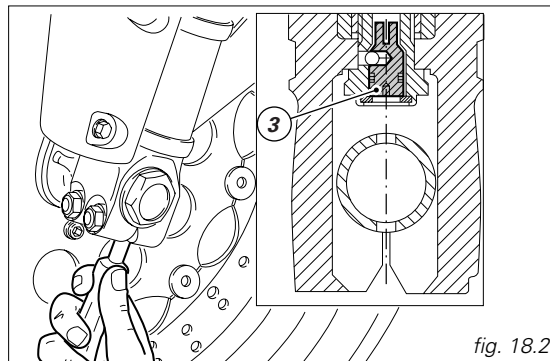

fig. 18.2
- 3) (fig. 18.2) to adjust compression damping.